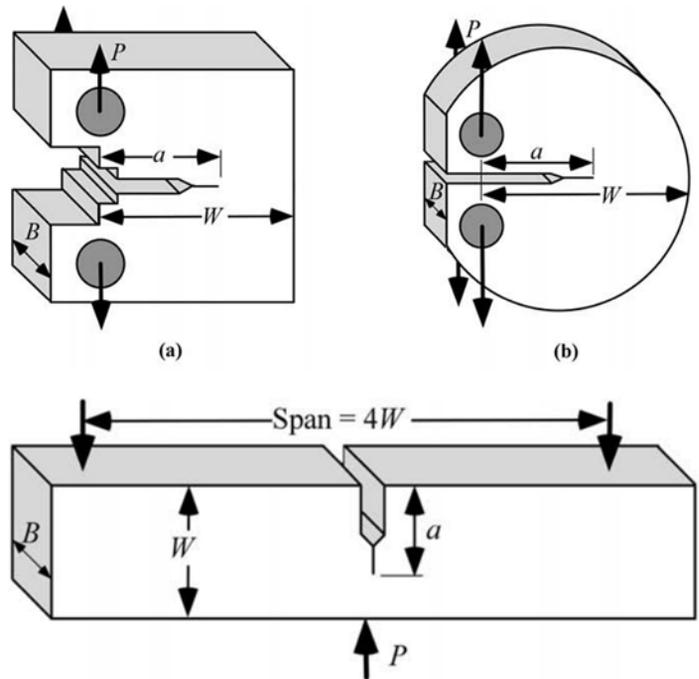

Figure 1: Standard fracture mechanics test specimens: (a) compact, (b) disk-shaped compact, and (c) single-edge-notched bend SE(B). [3]
To conduct a fracture testing, one must select a specimen, introduce a crack in the specimen, get a test machine and instrumentation, test to failure and get failure data, relate failure data to a critical  $K$ , then repeat the test for a range of temperatures. There is a variety of test specimens. Standard ones are compact — C(T), disk-shaped compact, and single edge bend — SE(B), (Figure 1). There are other special specimen geometries, such as arc-shaped tensile — A(T), middle tension (MT), and arc-shaped bend — A(B). Specimen geometry can